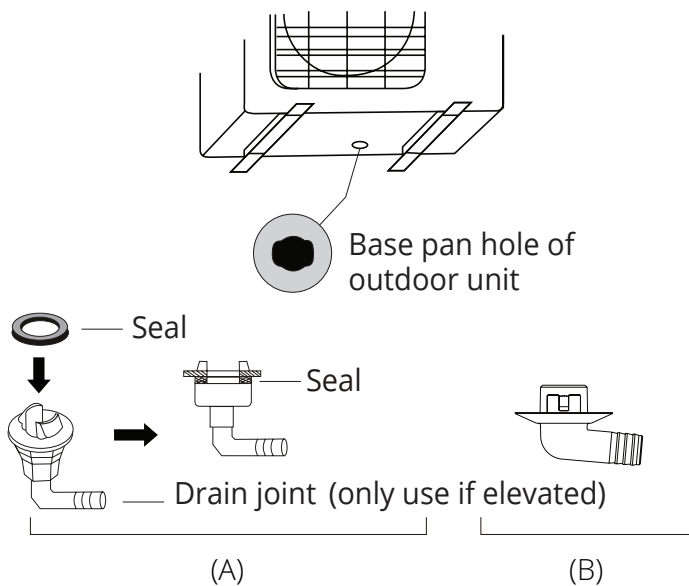

Fig. 6.4
**If the drain joint comes with a rubber seal (see Fig. 6.4 - A), do the following:**
**If the drain joint does not come with a rubber seal (see Fig. 6.4 - B), do the following:**